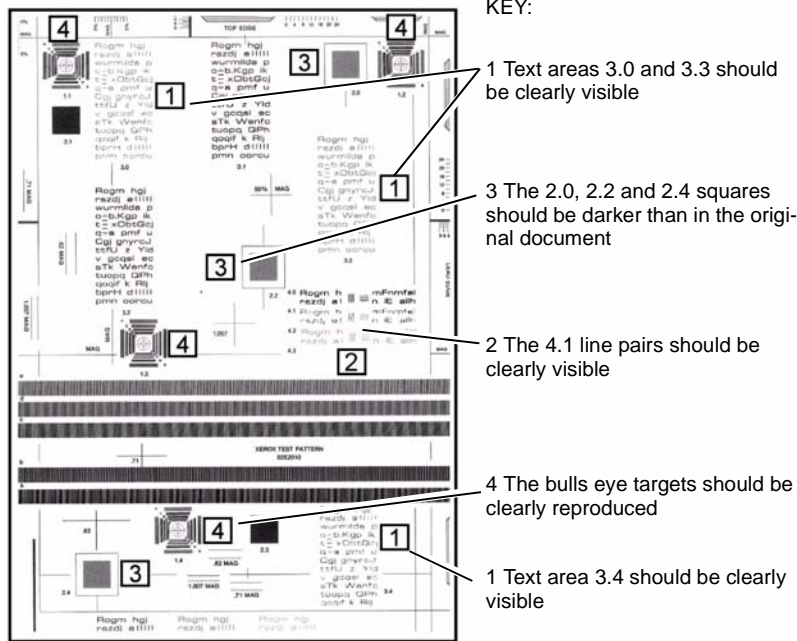
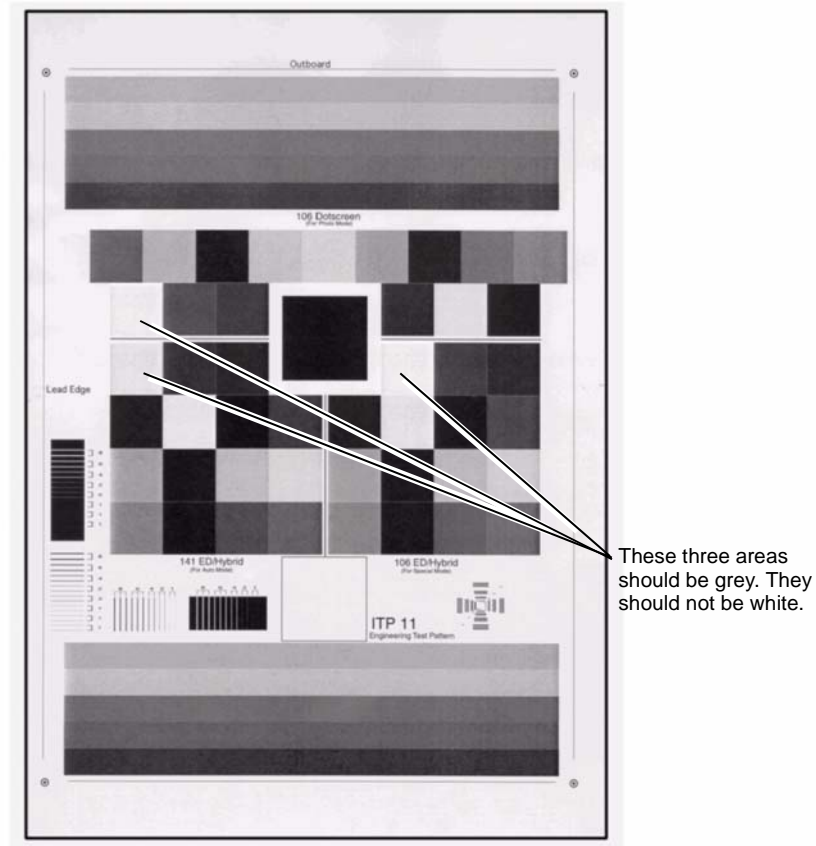

Figure 1 Copy of test pattern 82E2010 / 82E2020
Figure 5 Internal test print 11
2. Refer to Figure 1. Evaluate the copy at each numbered area as shown in the figure.
Make the following copies and prints. With normal copy quality settings, make one DADH and one platen copy of test pattern 82E2010 (A4), or 82E2020 (8.5x11 inches). Then run one each of Internal Test Patterns 11, and 15, dC606. Mark these "START" and save them for reference. Figure 1, Figure 4 and Figure 5 show examples of these.
Make one DADH and one platen copy of test pattern 82E2010/82E2020. Then run one each of Internal Test Patterns 11, and 15, dC606. Compare these copies and prints to Figure 1, Figure 4 and Figure 5. **The copies fail to meet the specification.**
If applicable, save the customer auditron, using the PWS Auditron Save and Restore tool. Perform **dC132**, All Copier NVM initialisation. This sets the machine NVM to default. Make one DADH and one platen copy of test pattern 82E2010/82E2020. Then run one each of Internal Test Patterns 11, and 15, **dC606**. Compare these copies and prints to **Figure 1**, **Figure 4** and **Figure 5**. **The copies fail to meet the specification.**
- Change the value to **1000**. Save the new NVM value and exit diagnostics using the call closeout and the machine reboot option. Run 200 copies of internal test print 12 to stabilise the machine. Copy and evaluate test pattern 82E2010/82E2020 and print and evaluate internal test patterns 11 and 15. Refer to **Figure 1**, **Figure 4** and **Figure 5**. If the copies and prints now meet the specification, perform **Final Actions**. If the copies and prints still fail to meet the specification, continue with this procedure.